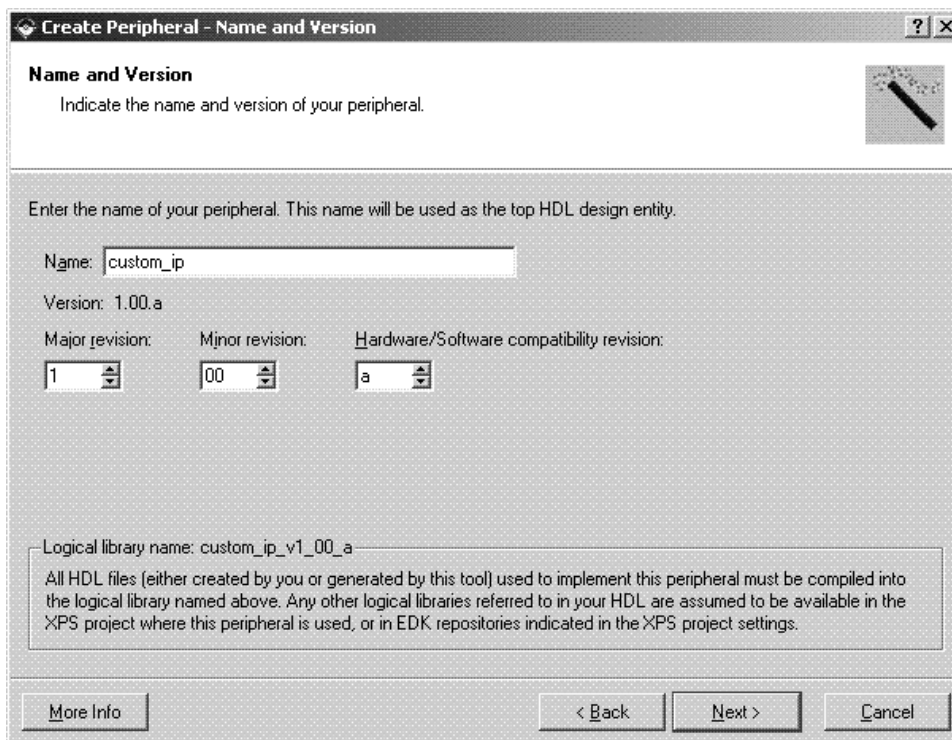

Figure 13: Create Peripheral - Name and Version
- Click **Next**. In the Create Peripheral – Name and Version dialog, enter custom_ip as the name of the peripheral. This is shown in Figure 13.